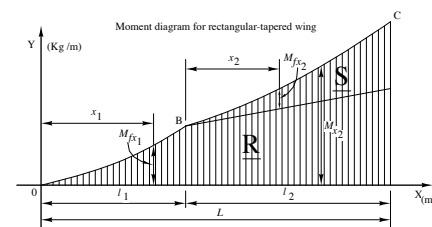

Figure 9-10
Here also, the diagram of the total moment may be considered as the summation of the one given by the load in the tapered section (R), with the one given by the rectangular section (S) in Figure 9-10.